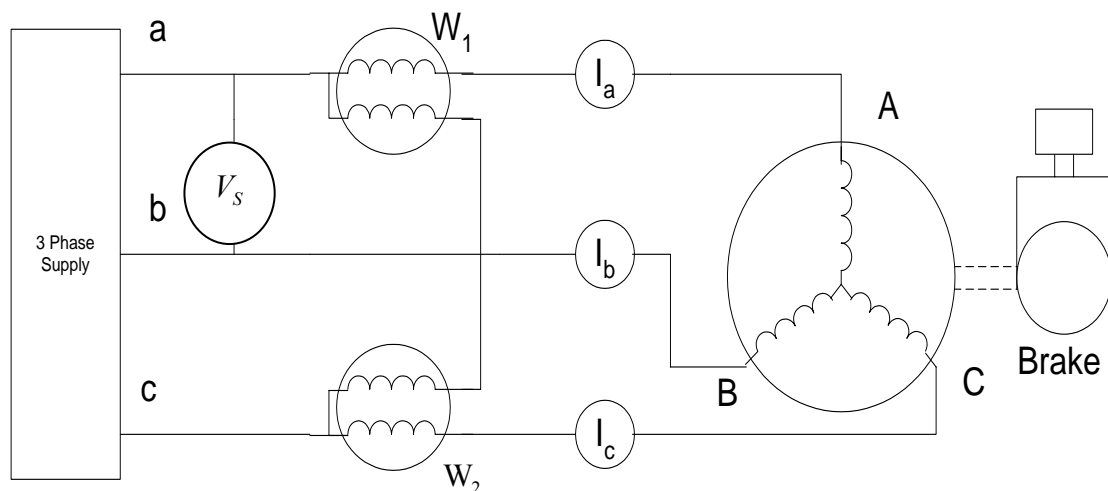

Figure 6: Schematic diagram for the blocked-rotor test
1. Connect the circuit as in Figure 6. Keep the applied voltage to zero at starting.